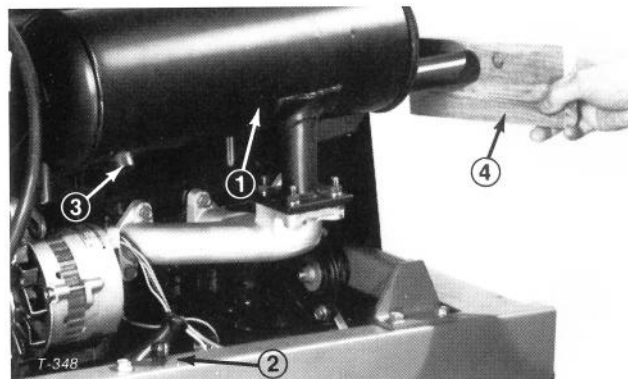

Figure 50
2. Remove pipe plug from cleanout port at lower side of muffler (Fig. 50).
3. Start engine, plug the normal muffler exit with block of wood or metal plate so exhaust flow will be forced out the clean-out port (Fig. 50). Continue to block exit until carbon deposits cease coming out port.